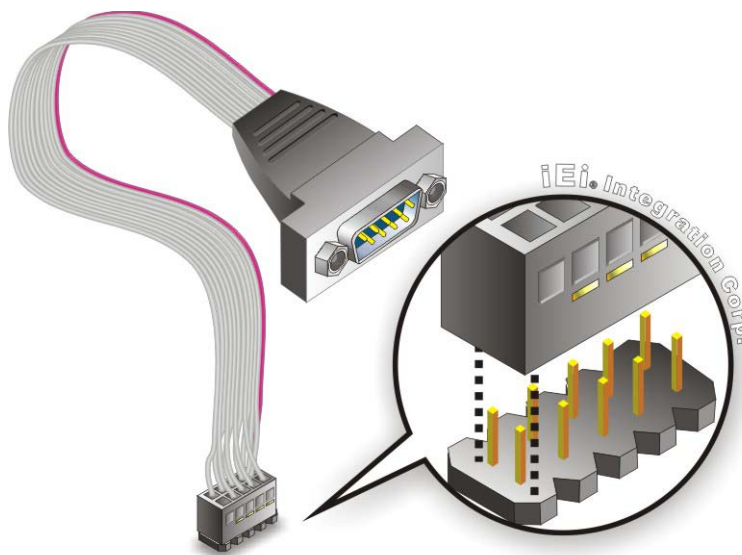

Figure 4-4: Single RS-232 Cable Installation
Step 2: Insert the cable connector. Insert the connector into the serial port box header. See Figure 4-4. A key on the front of the cable connectors ensures the connector can only be installed in one direction.